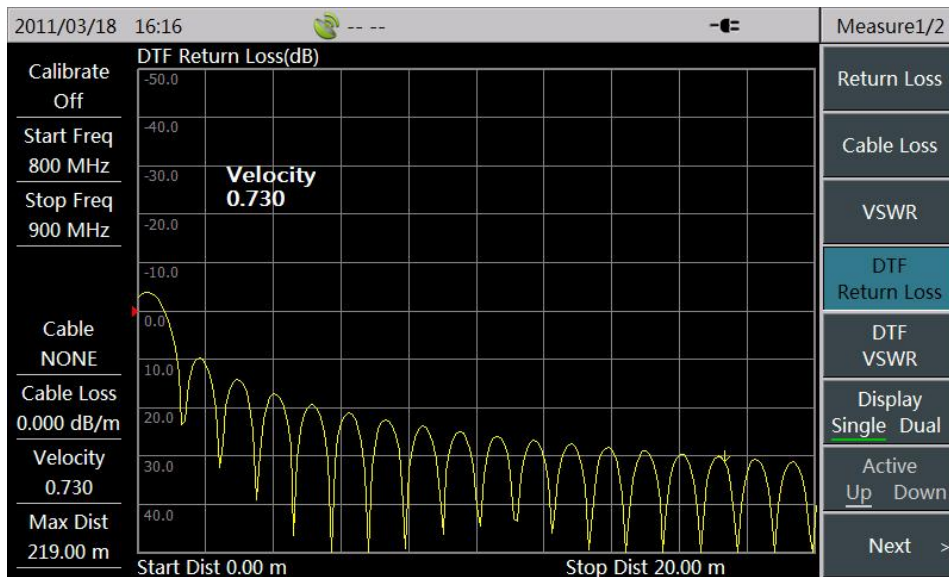

Figure 3-5 Velocity Factor Set
- 8) Select the [Velocity] menu to set the velocity factor of the measured cable. Velocity factor, which is the ratio of transmission speed and light speed of electromagnetic wave in the cable, is set as 0.730 here, as shown in Figure 3-5.